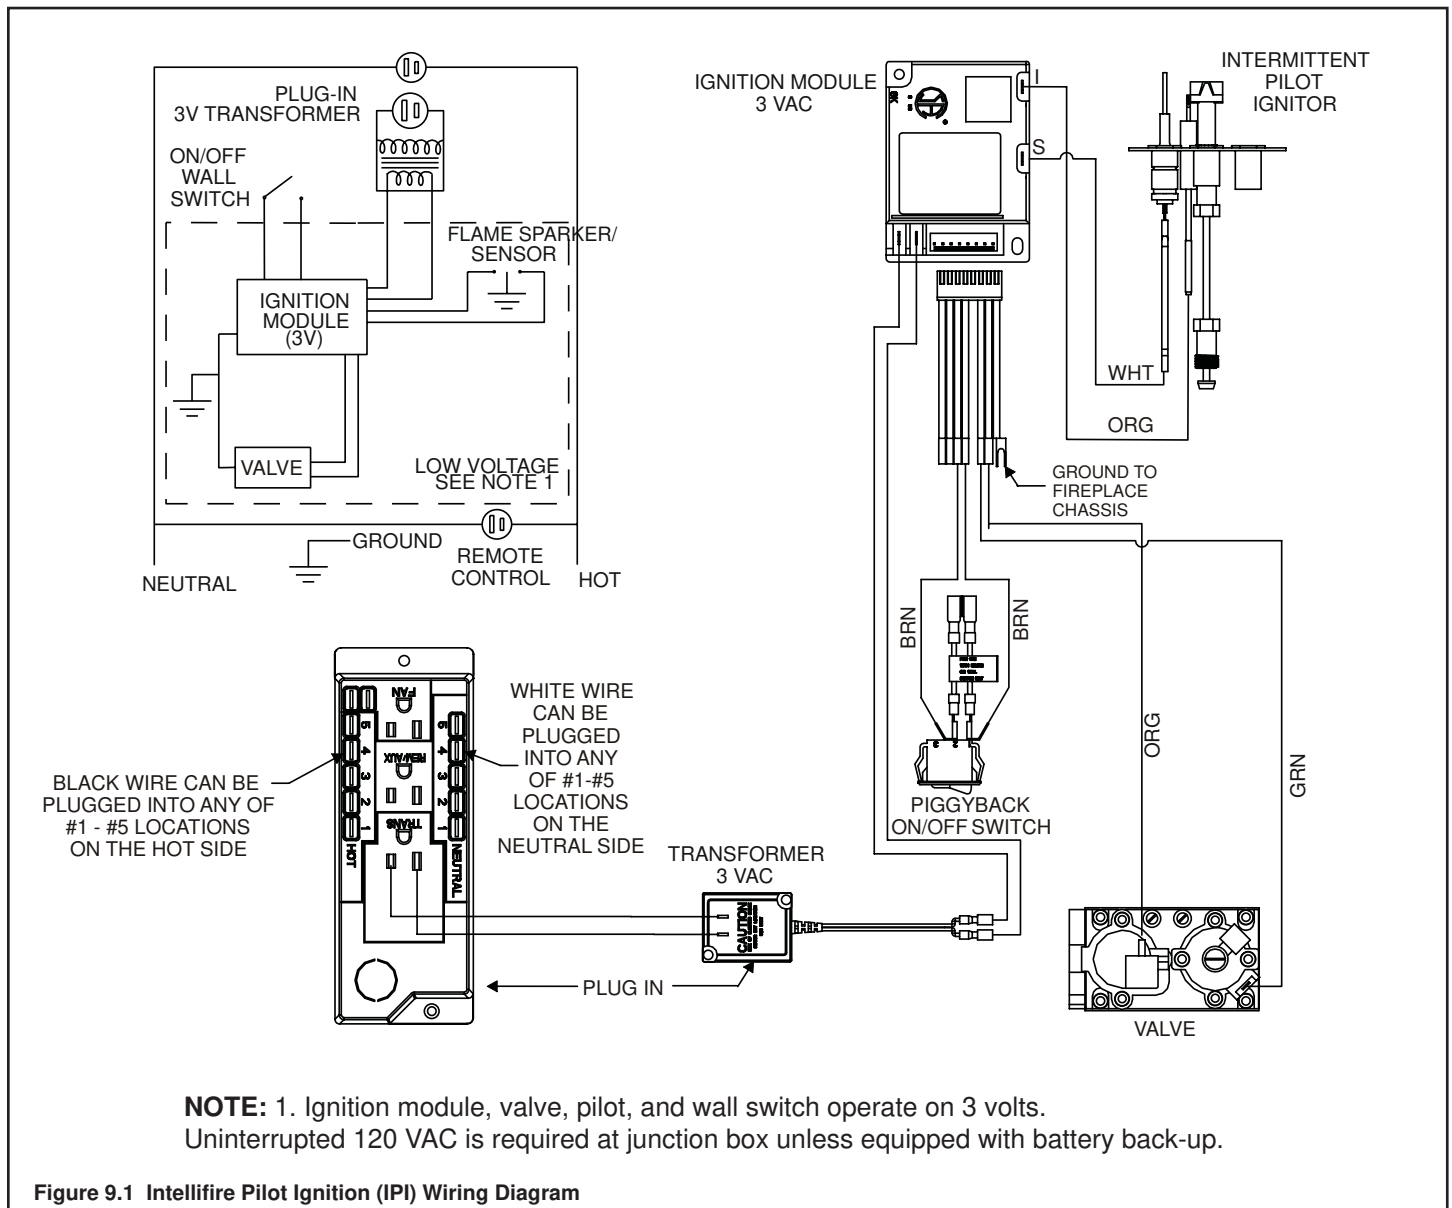

Figure 9.1 Intellifire Pilot Ignition (IPI) Wiring Diagram
- Refer to Figure 9.1, Intellifire Pilot Ignition (IPI) Wiring Diagram.